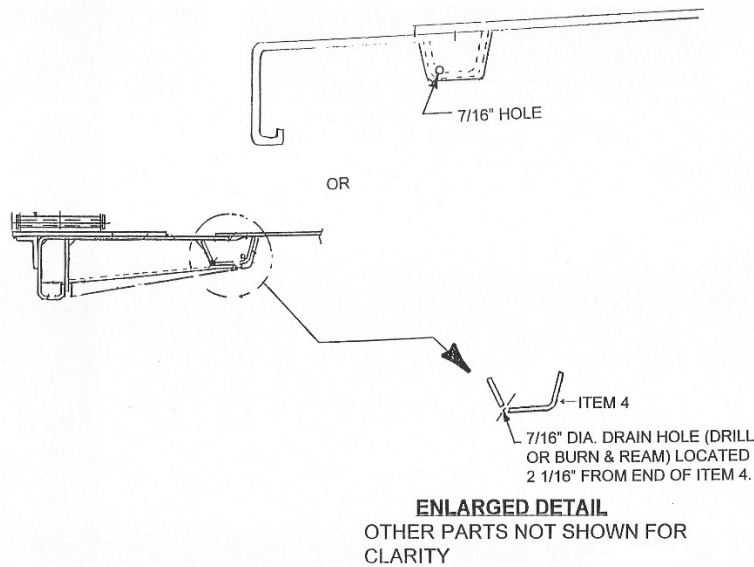

Figure 16. Adding Drain Holes to Longitudinal Stiffeners
Each hinge deck longitudinal needs a drain hole in one end or the other to allow water to escape. Some holes were placed at the striker end while other autoracks had the holes placed in the plate below the hinge. Some autoracks had a hole placed in the longitudinal member near the hinge. (See Figure 16)
2. Refer to Figure 16.